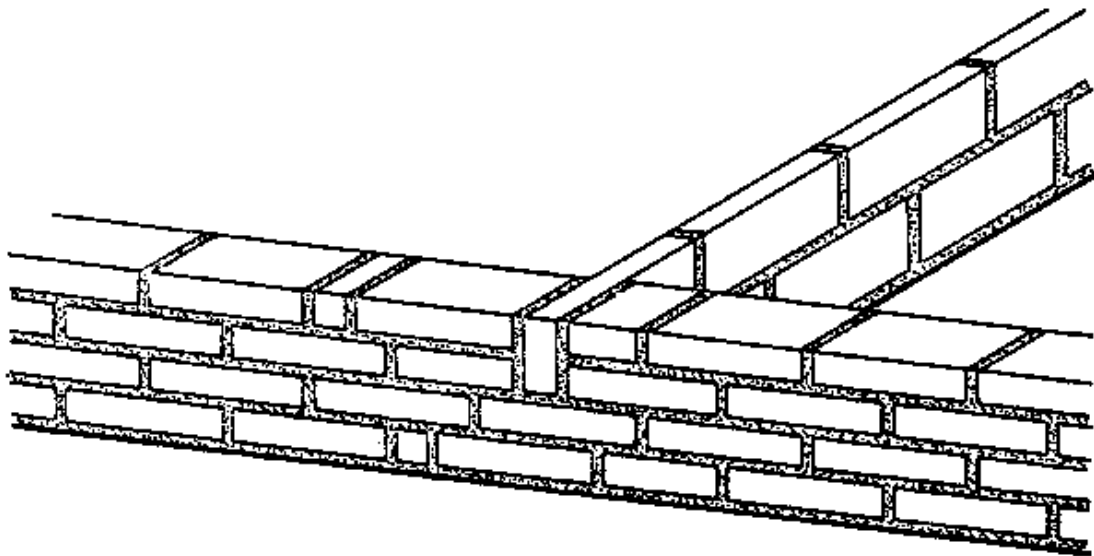

Fig. 2 SITUATION "B" - SPECIALLY MADE BLOCKS
- SITUATION "B", SPECIALLY MADE BLOCKS: When this bonding method (Fig. 2) is compared with the last method, it is clear that once again the specially made blocks are the best choice.